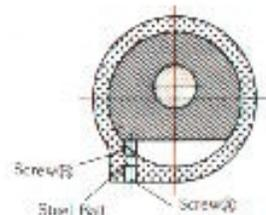

Fig. 3
Worm Gearing Adjustment on rotating the switch metal (10) clockwise until it hits the stopper after loosening the metal clamp handle (11), the worm gear will become free from engagement. Conversely, when the switch metal is made to rotate until it hits the stopper, the worm gear will be engaged. In case where the depth of the gear engagement is shallow, remove the screw A and the steel ball and rotate the screw B inside the unit counterclockwise so that the gear engagement proportionately becomes deepened. Reversely, when the screw B is made to rotate clockwise, the depth of engagement will proportionately become shallow. After adjustments are over, replace the steel ball and clamp the screw A tight with the metal clamp handle tightened. (see fig.3).